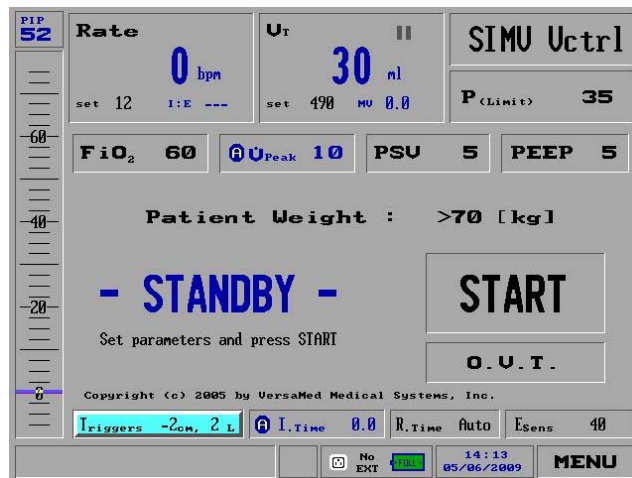

Figure 59: Triggers Selected on the Main Screen
- Select the **Triggers** option from the bottom left section of the **Main** screen (Figure 59):